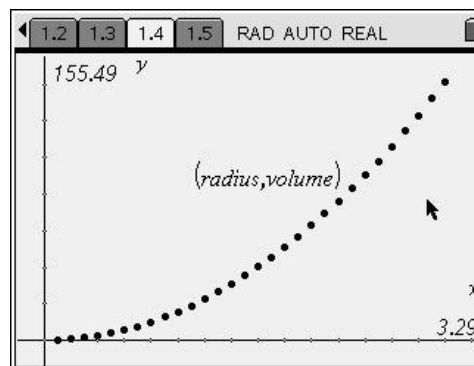

Figure 34
34. Press $\text{ctrl} \triangleright$ to move to page 1.4. Set the appropriate window for the collected data by pressing $\text{menu} \langle 4 \rangle \langle 9 \rangle$ for Menu, 4:Window, 9:Zoom-Data. Press $\text{ctrl} \langle \text{G} \rangle$ to hide the entry line. (Figure 34) Repeat the above procedure for the graph on page 1.5. Answer questions 12 – 17 on the answer sheet.